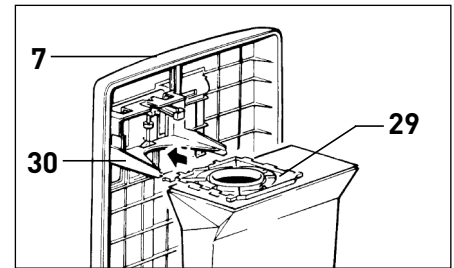

Figure 9
Changing the Filter Bag - Figure 9
2. Bag not inserted properly.	2. Reinsert bag with cover release flap (5) up, until firmly latched in bag holder (see pg. 10, figure 9).